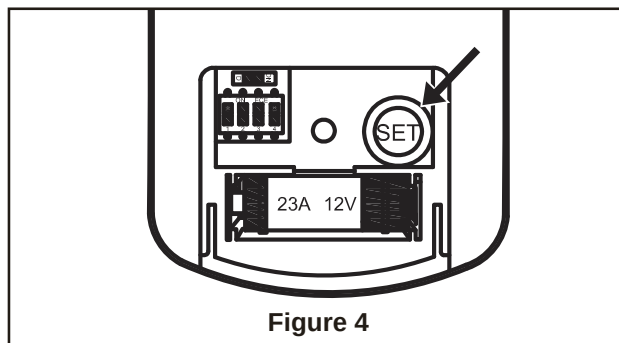

Figure 4
- ☐ 6. Follow these steps to pair your remote control to your fan. (Figure 4)